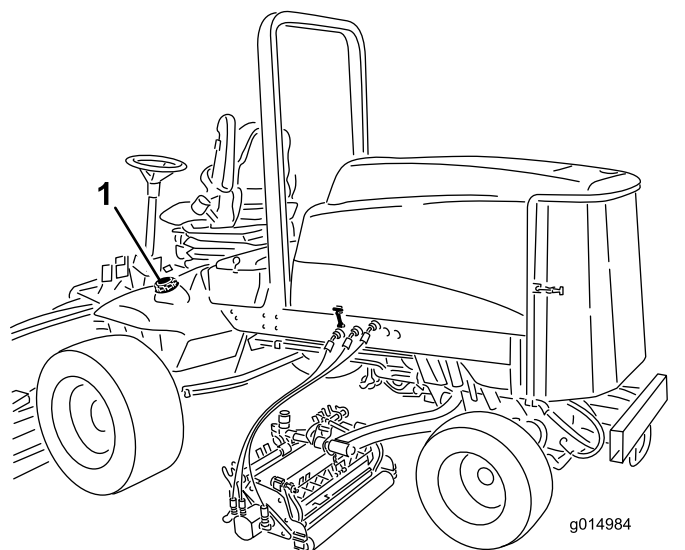

Figure 38
3. Remove the cap from the fuel tank (Figure 38).